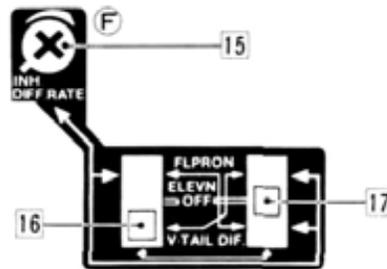

Fig. 68
- Set Switches [16] and [17] as shown in Fig. 68.